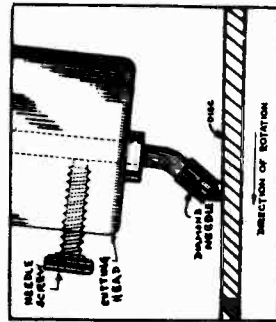

FIG. 4
For this type of recording, place the heavy weight (22) on the cutting head pin and insert a diamond needle into the cutting head. This diamond needle should have its shaft bent slightly, so that it drags along the disc. See Fig. 4.